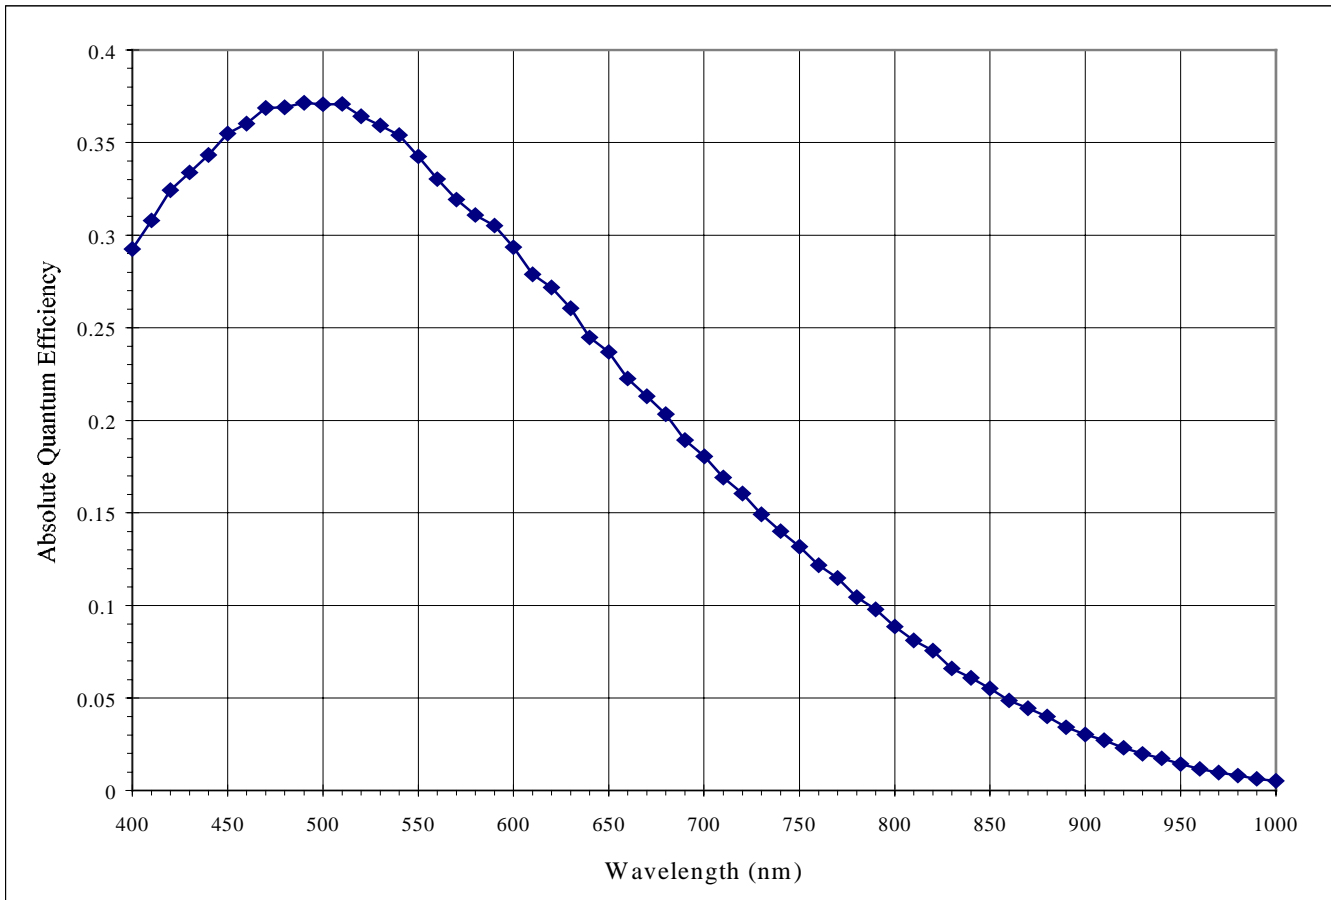

Figure 18 Nominal KAI-0311M Spectral Response
2. Refer to typical values from Figure 18 Nominal KAI-0311M Spectral Response